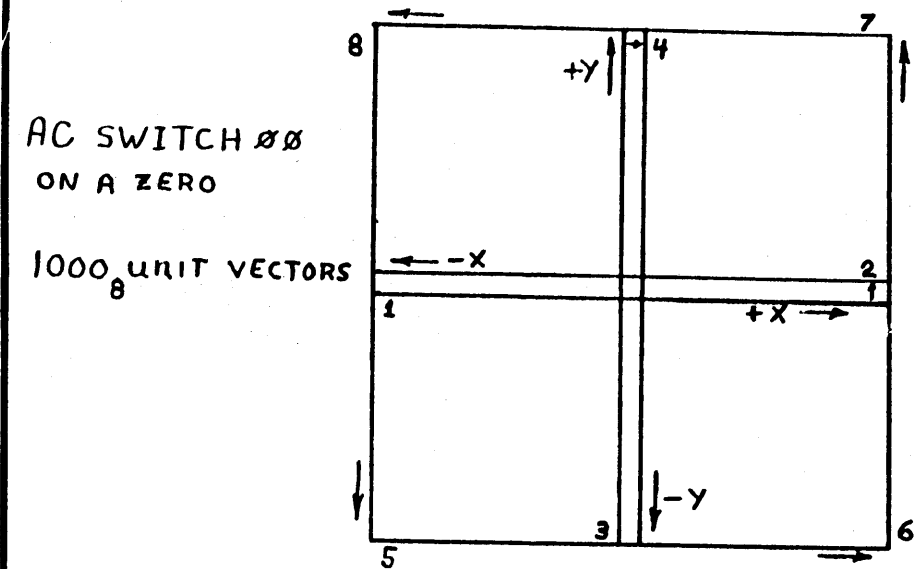

Figure 8.7.1
A. Figure 8.7.1 is on the screen when one starts the program at location 10200(8) with the AC switch 00 on a zero. This picture allows one to reference a perpendicular line against the end point of a 1000(8) unit vector. Caution must be observed that the starting positions of the opposite polarity lines are equal. The error you will find here is increased as the vector lengths are made longer and decreased as the vector lengths are made shorter. There are three possible problems that can produce this symptom.